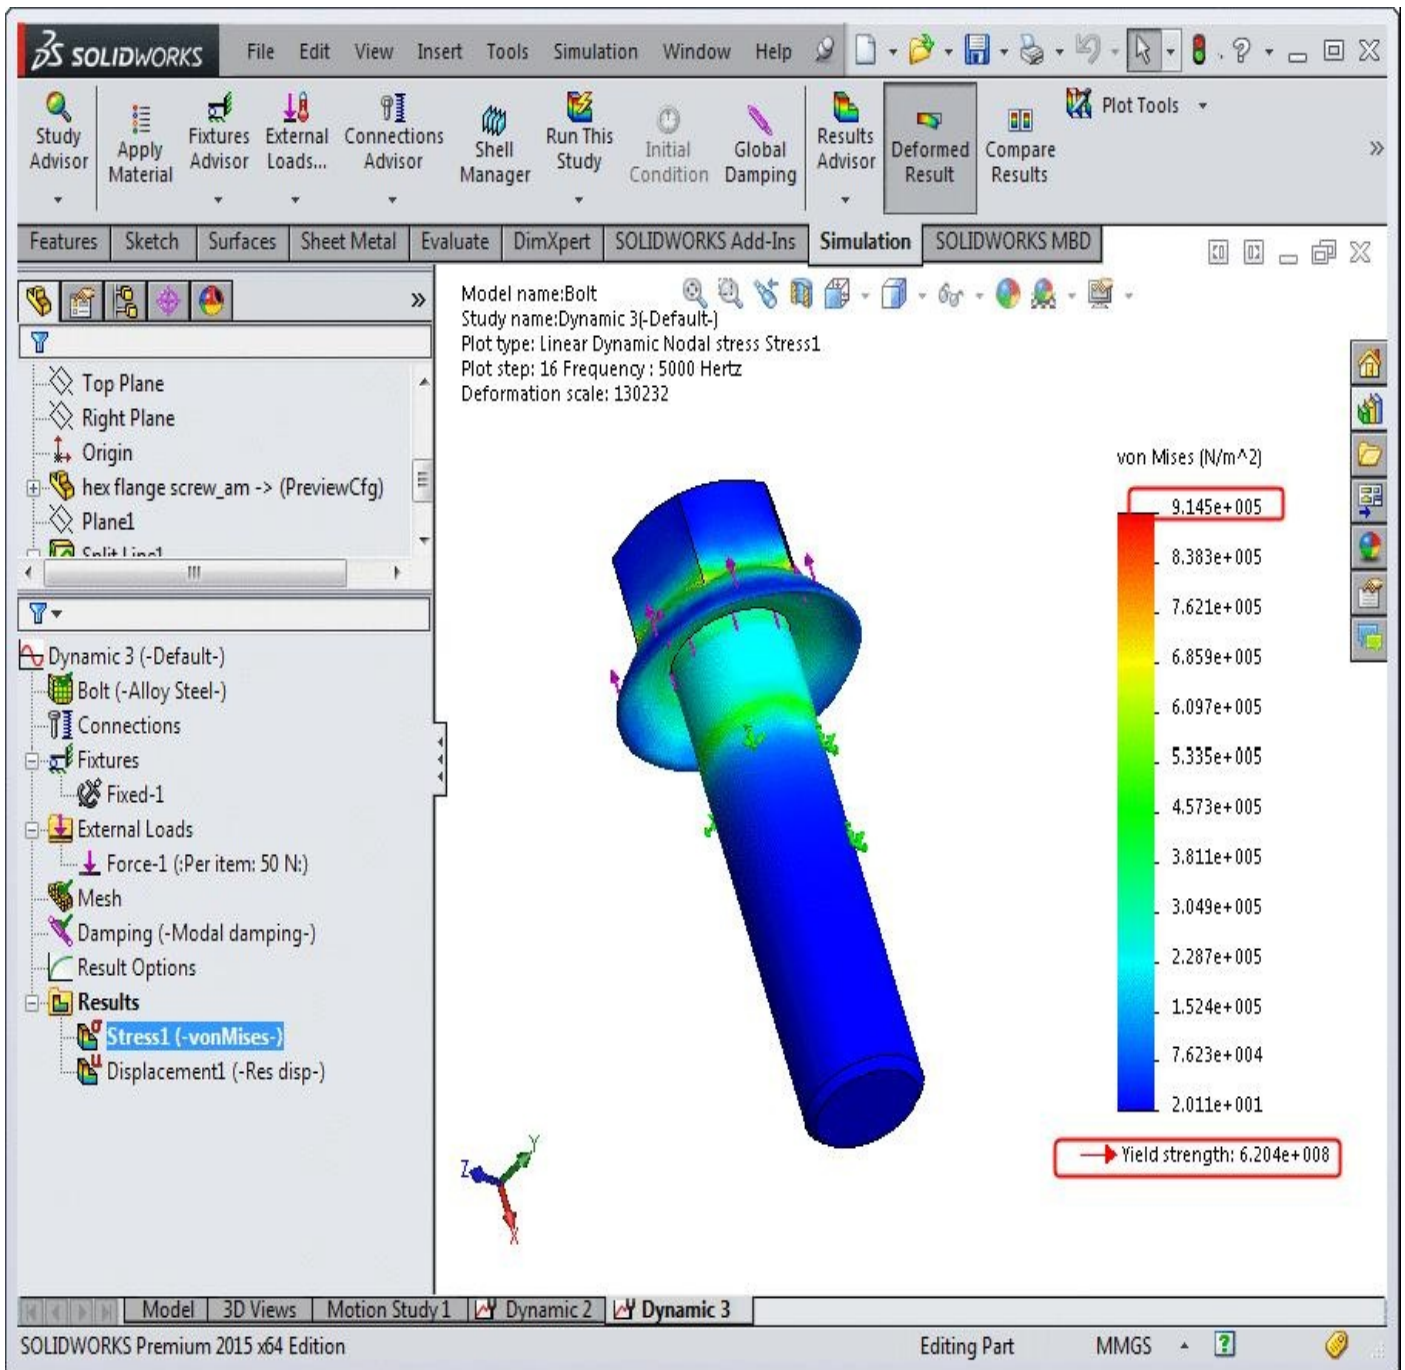

Figure-21. Result of Harmonic study
- Click on the **Run This Study** button from the **Ribbon** and wait & watch. The Stress result will be displayed as shown in Figure-21 which concludes that nobody can stop Jimmy. The stress in bolt is well below the yield strength.